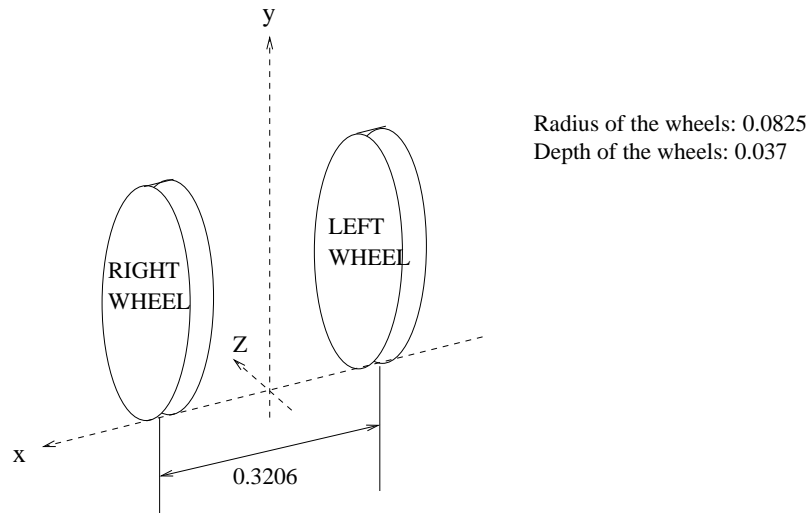

Figure 3.20: Wheels of the Pioneer 2TM robot
- for the two wheels: two `Solid` nodes. Each `Solid` node children contains a `Transform` node, which itself contains a `Shape` node with a geometry `Cylinder`. Each `Solid` node has a name: "left wheel" and "right wheel". See figure 3.20 for the wheels dimensions.